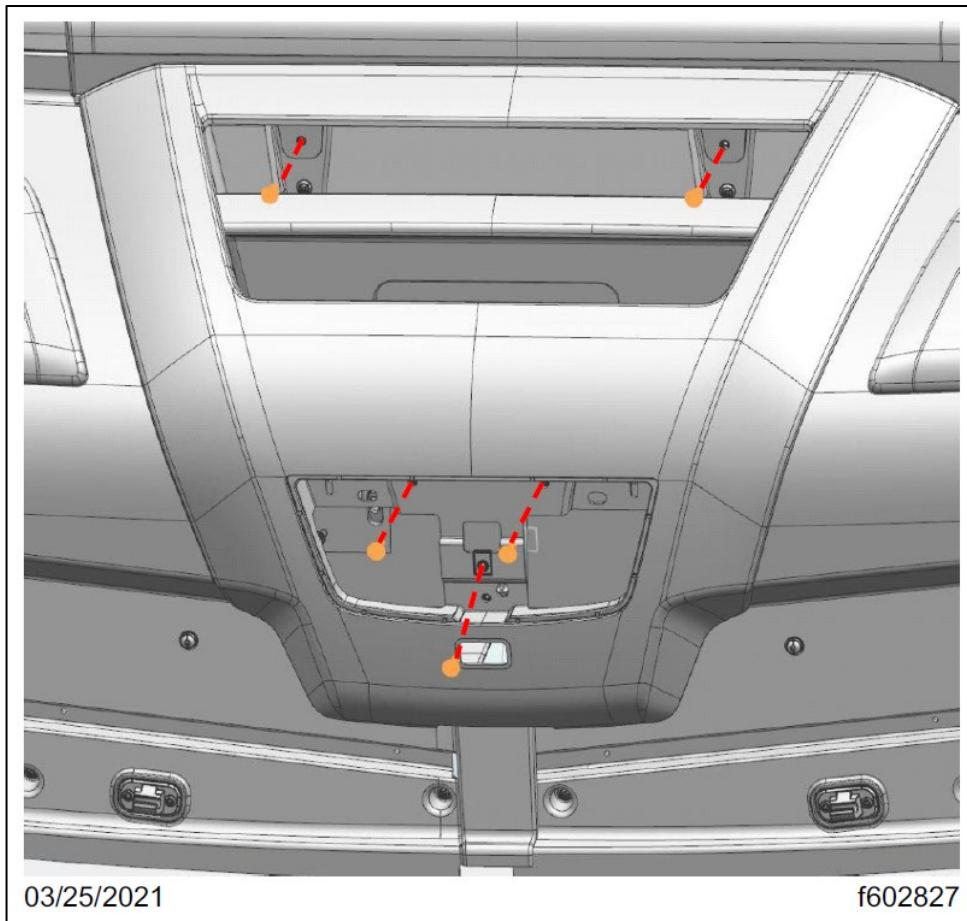

Fig. 45, Sleeper Cab Center Bezel Removal
8.2. Remove the five fasteners that attach the center bezel to the center storage bin. Remove the center bezel from the vehicle. See Fig. 45.